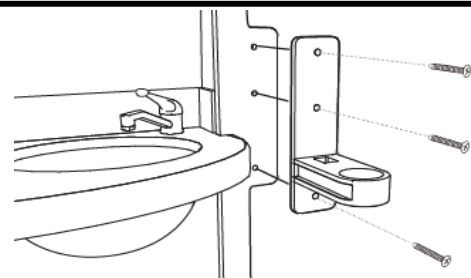

Fig 3.2
1. Attach ICW T2 Monitor Mount to face frame using 3 #14 Phillips head screws, provided in T2 package (fig 3.2).